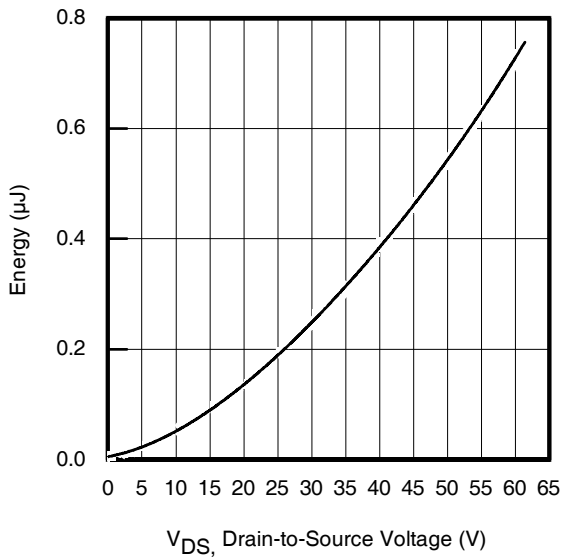

Fig 11. Typical C_{OSS} Stored Energy
| $C_{oss\ eff. (ER)}$ | Effective Output Capacitance (Energy Related)⑦ | — | 437 | — | | $V_{GS} = 0V, V_{DS} = 0V\ to\ 48V$ ⑦, See Fig.11 |